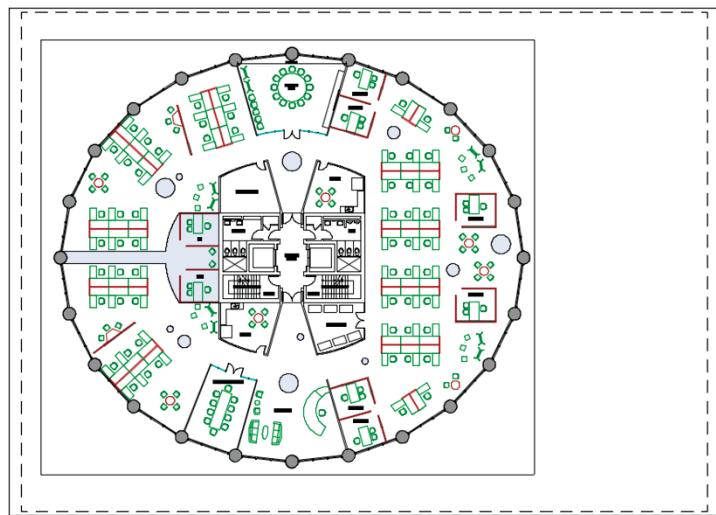

FIGURE 13.19 The drawing fits the paper at 3/16" scale (or 1:50 in metric).
- Double-click the paper outside the viewport to switch back into paper space. Select the viewport, and grip-edit it so that it closely surrounds the plan geometry. Move the plan to the left on the paper to make room for another drawing on this layout. Figure 13.19 shows the result.